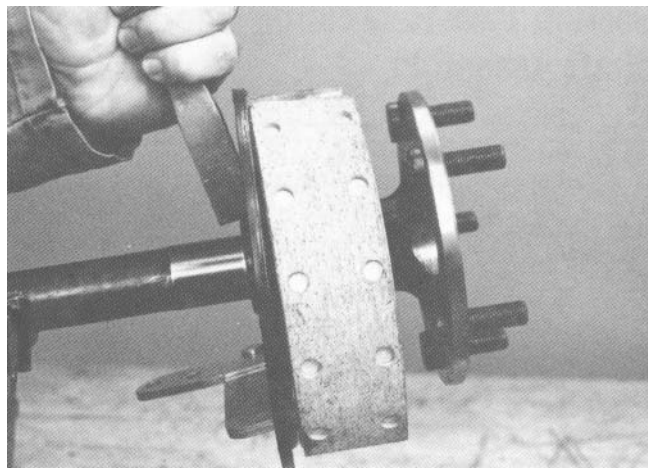

Figure 12
10. Place a chisel in position across the drilled hole and strike sharply to break the retainer (Fig. 12). Remove and discard the retainer.